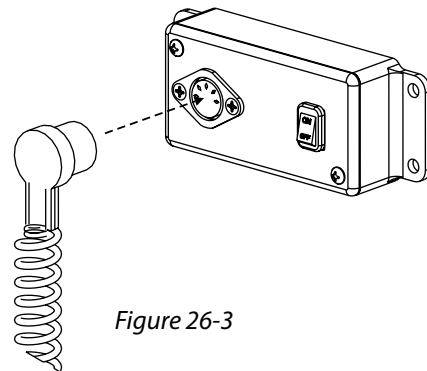

Figure 26-3
**8. Plug the hand control into the receptacle in the enclosure.** Turn the power switch to the 'ON' position. *[Figure 26-3]*